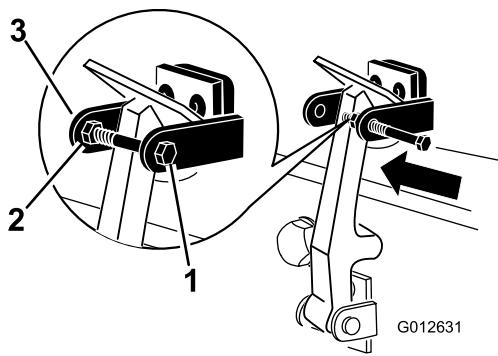

**Figure 7**
7. Hook the latch onto the hood-latch bracket (Figure 7).